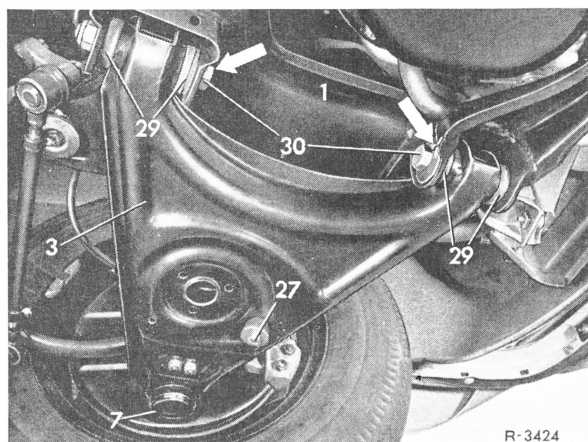

Fig. 2
- 3 Mark position of cam bolt (30) in relation to front axle carrier on bearing of lower control arm (refer to arrows) and loosen hex. nuts (Fig. 2).